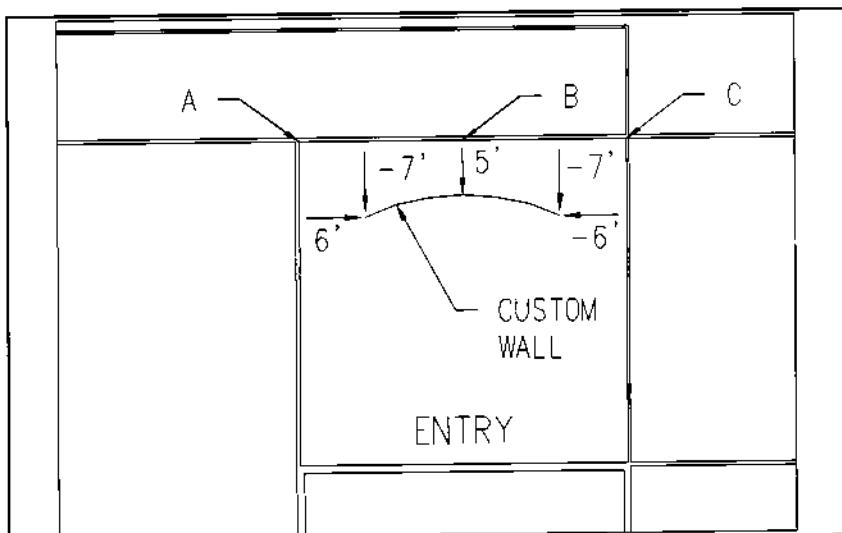

Figure 33.
2. Use the AutoCAD ARC command with filters (which ASG calls Autopoint or Autopt) as described below at points A, B, and C and shown in Figure 33.
- > Pick base point <last>: INT of [select intersection at point A as shown in Figure 33 from Assist pull-down menu]
- > Pick base point <last>: MID of [select midpoint at point B as shown In Figure 33 from Assist pull-down menu]
- > Pick base point <last>: INT of [select intersection at point C as shown in Figure 33 from Assist pull-down menu]